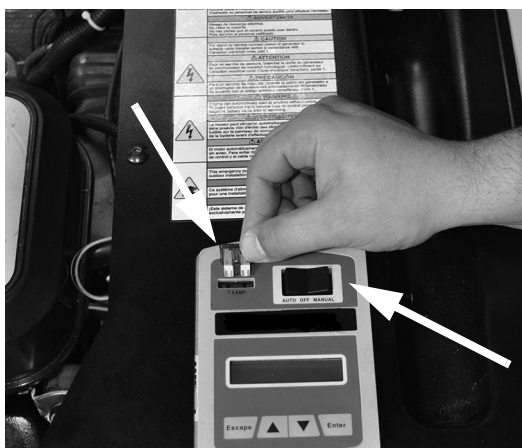

Figure 3-1. Generator Controllers
2. Put the generator in the OFF mode. Remove the generator panel fuse. See Figure 3-1.